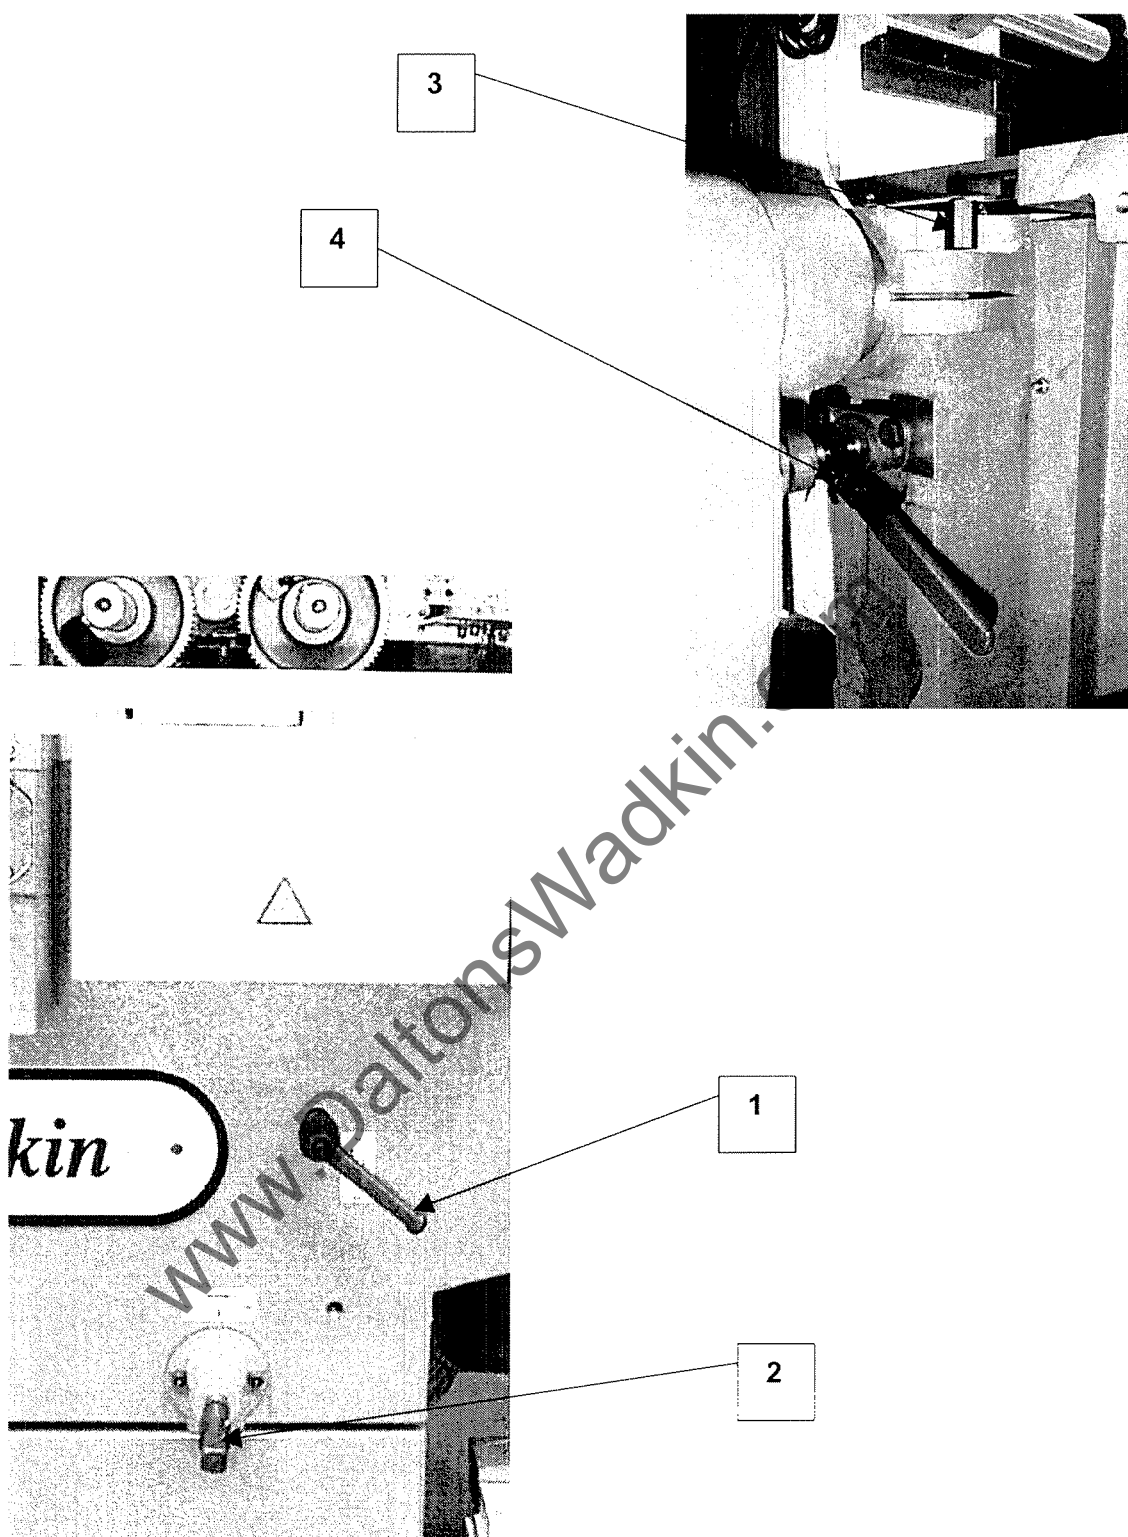

Figure 5.2
- 2 Using a combination spanner, unscrew the spindle nut from the spindle by locating the spanner on the hexagon (1) of the spindle and the two flat faces of the cutter block locknut (2), (unscrew counterclockwise).
- 3 Remove the locking collar (3).
5.2 Setting First Bottom Head (Figure 5.2)